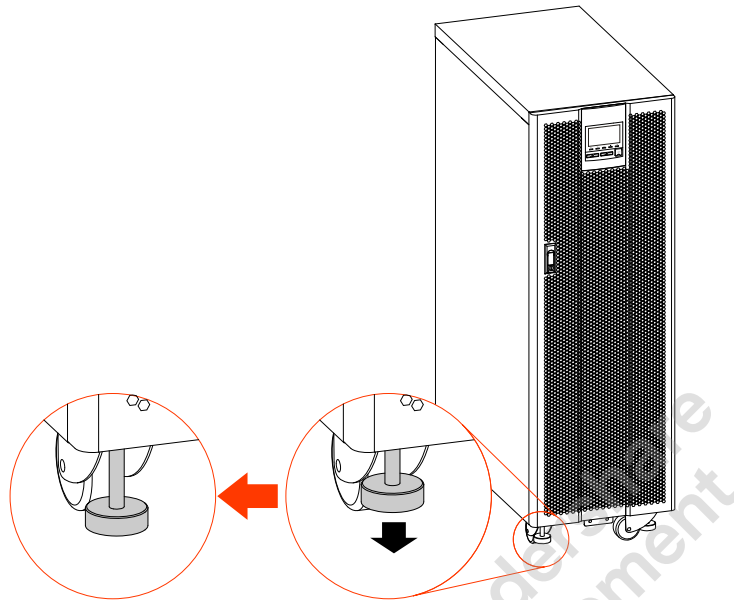

Figure3-13 Adjust supporting feet
- For PS-POU 80kW, PS-POU 100kW, PS-POU 120kW, adjust each supporting feet to parallel the supporting feet with ground, as shown in Figure3-13.